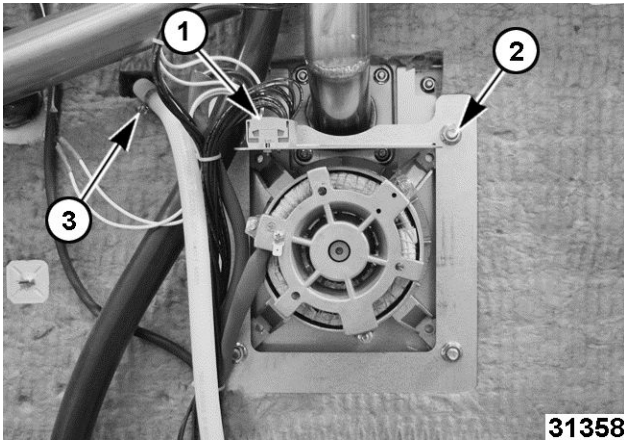

Fig. 86
- Remove humidity hose clamp (3, Fig. 86).
4. Note and disconnect motor wires. (1, Fig. 86).
5. Remove nuts, shroud and spacers if they exist. (2, Fig. 86).